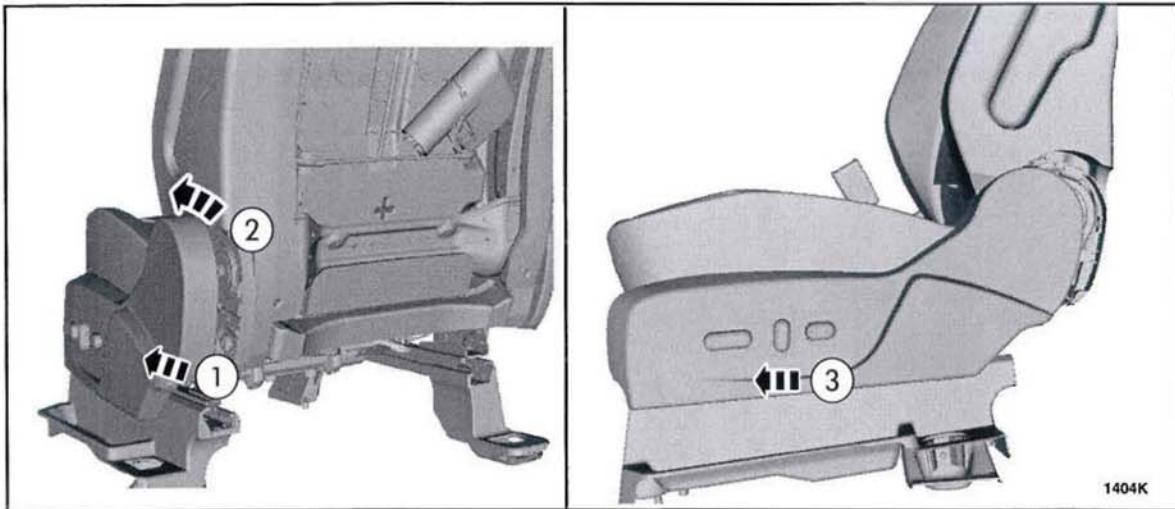

FIGURE 11
- b. At the location shown in Figure 11 #1, pull out to release the retaining clips.
- c. At the location shown in Figure 11 #2, pull up and out to release the upper retaining tab.
- d. As shown in Figure 11 #3, slide the cover forward to remove from the seat.